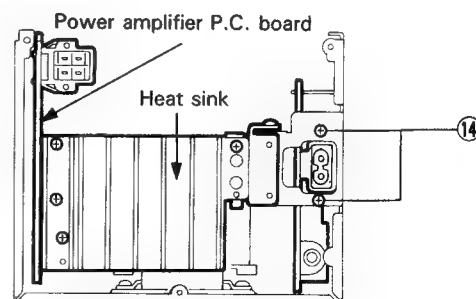

Fig. 7-15
3. Remove the two screws (14) retaining the power supply P.C. board (Refer to Fig. 7-15).